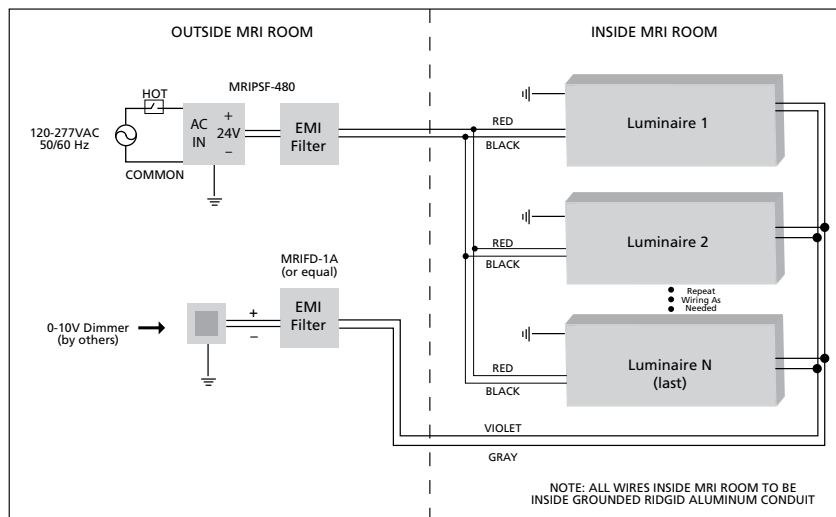

FIGURE 4
- Run DC supply wiring, equal in size and temperature rating to the filter input wiring, between the filter output cables and the first luminaire within the shielded room. Follow recommended wiring layout described within Figure 4. All wiring must be within completely-enclosed, grounded conduit suitable for an MRI environment. Any gaps, regardless of size, must be closed or wrapped in copper foil tape. Special attention should be paid to the wiring entry point into the shielded space. Class 1 wiring methods are required.
- Run the dimming signal wiring, equal in specification to the filter input wiring, between the filter output cables and the first luminaire within the shielded room. Maintain polarity between input and output sides of the filter and follow wiring recommendation in Figure 4. All wiring must be within completely enclosed, grounded conduit suitable for an MRI environment. Any gaps, regardless of size, must be closed or wrapped in copper foil tape. Special attention should be paid to the wiring entry point into the shielded space. Cap gray and violet leads at luminaire(s) if dimming function is not implemented.